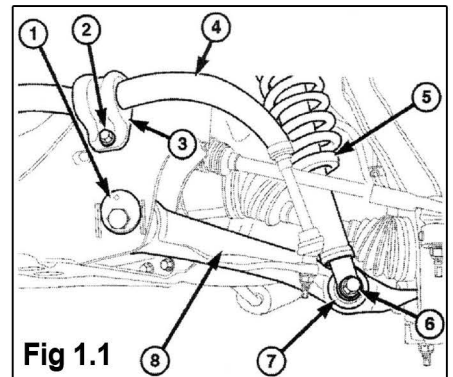

Fig 1.1
7. Support lower control arm at outer end with floor jack (#8 Fig 1.1)